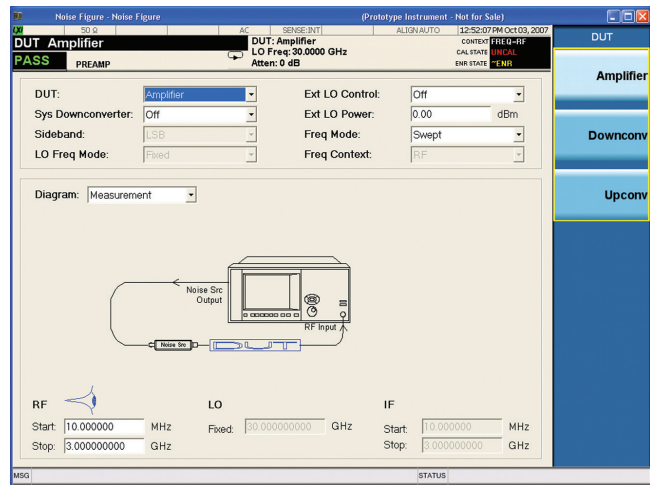

Figure 1. Measurement setup with analyzer, noise source and DUT.
3. Disconnect the noise source from the input of the analyzer and connect it to the input of the DUT. Connect the output of the DUT to the RF input of the analyzer (Figure 1). Using fewer adapters will provide better measurement results.